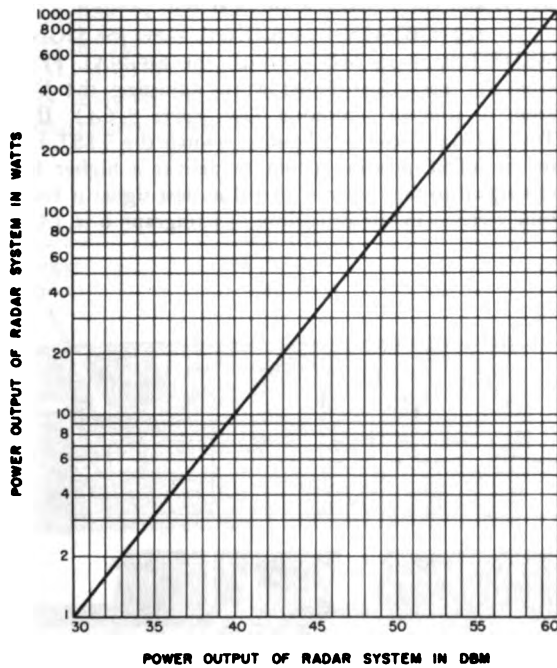

Figure 3-5. DBM-to-Watts Conversion Chart
dbm, convert to dbm by use of figure 3-5. If the rated peak power is known, compute rated average power by the procedure of paragraph 6. g. (2).
(1) OBTAIN POWER INDICATION.—Perform the following operations, unless already completed:
(10) COMPARE WITH RATED P_m .—Compare the measured value of Receiver Performance Figure, P_m with the rated value. If the rated value is not given in dbm, convert to dbm by use of figure 3-5.
(2) COMPUTING RATED TRANSMITTER AVERAGE POWER IN DBM.—If known in watts or kilowatts, convert to dbm by use of figure 3-5. If the rated peak power is known, proceed as follows:
(a) CONVERT RATED P_{pk} TO DBM.—Convert rated transmitter peak power from watts or kilowatts to dbm by use of figure 3-5. This figure is the rated transmitter performance figure, $P_{pk(dbm)}$.
From figure 3-5, $P_{pk}(\text{dbm}) = +76$ dbm.